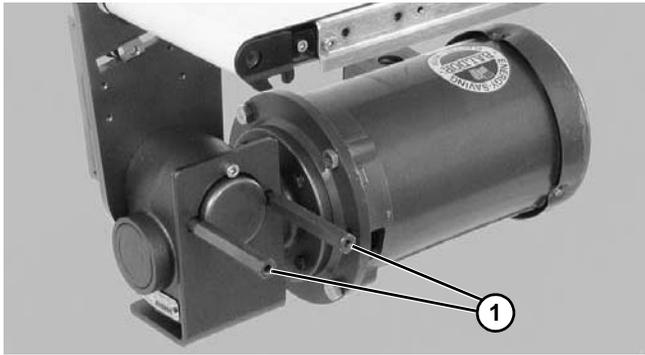

Figure 34
2. Remove hex support posts (Figure 34, item 1).